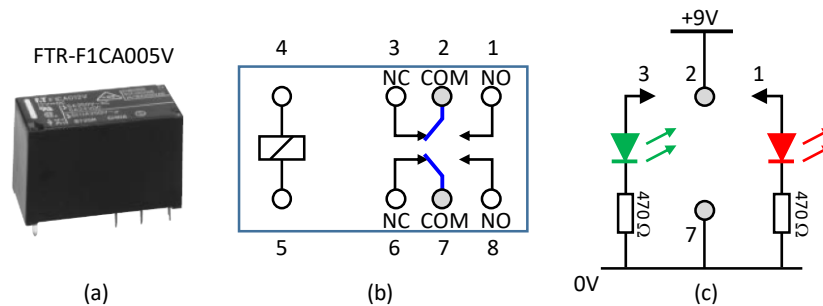

Fig. 6. Fujitsu's DPDT relay (FTR-F1CA005V) (a) picture, (b) schematic, and (c) sample connection with two LEDs that can be switched on one at a time.
The relay is an electromagnet switch: a current through its input coil generates a magnetic field which attracts or repels a lever. There are many types of relays. We will use the *double pole double throw* (DPDT) type as pictured in Fig. 6(a). The schematic in Fig. 6(b) shows the following terminals: the control coil (4,5), COM for common (2,7), NO for normally open (1,8), and NC for normally closed (3,6). The two outputs (NO and NC) can be used to drive two complementary events (cannot occur at the same time). To appreciate this, let's play.
► **Build** the relay circuit as shown in Fig. 6(c). **Test** it: apply various dc bias (between 0.5-9V) across the coil (4,5), listen (for the clicks), watch (the LEDs on alternately, ) , and think (of how it works).